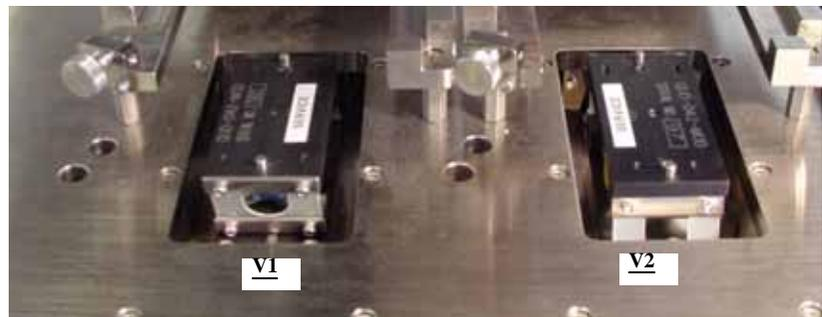

Figure 2-6—V1 and V2
- 2b) Install the input tube loader to the input Vibrator Motor 1 (V1) on the left side of the work surface as shown in *Figure 2-6*.
- 3a) Install the output tube unloader to the output Vibrator Motor 2 (V2) on the right side of the work surface as shown in *Figure 2-6* above.